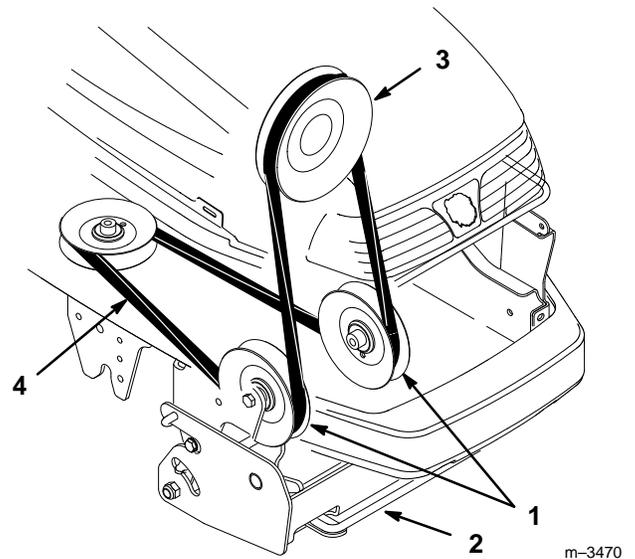

Figure 11
- Position the end of the belt into the grooves of the PTO pulley (Fig. 11), making sure it is also under the pulleys in the pulley box.